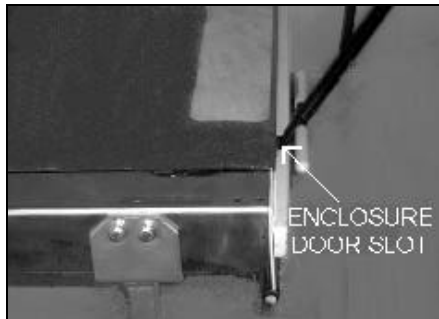

FIGURE 2-4: ENCLOSURE DOOR
- 3) Refer to **Figure 2-4**. Insert the spade end of manual operation lever into slot located on top-left corner of enclosure door.